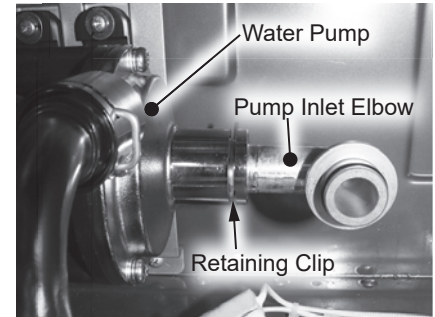

Figure 166 - Pump inlet elbow location
• Locate the pump inlet elbow. Remove the retaining clip securing elbow to water pump. Remove pump inlet elbow and dispose of properly. See Figure 166.